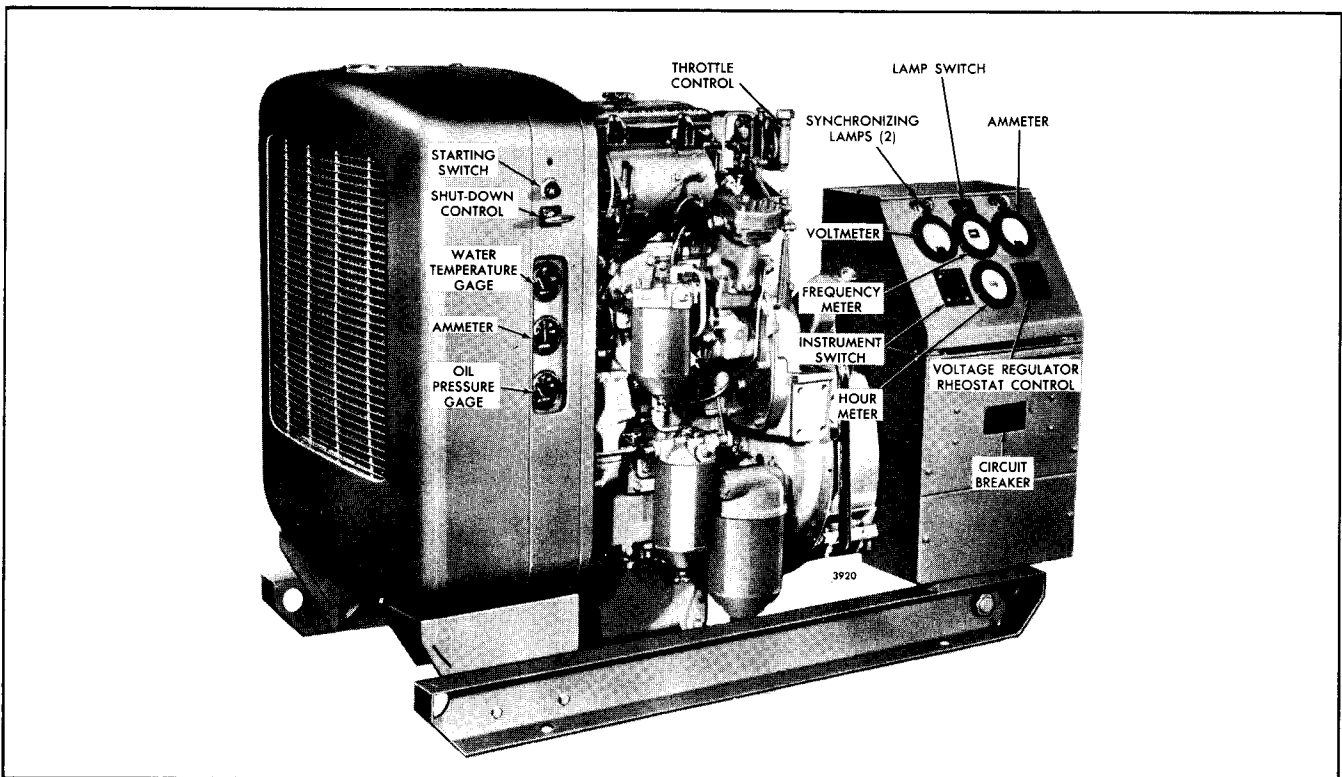

Fig. 1 - Location of Controls on Power Generator Set
These instructions cover the fundamental procedures for operating an alternating current power generator set (Fig. 1). The operator should read these instructions before attempting to operate the generator set.
4. Refer to Fig. 1 and place the circuit breaker in the **off** position.
Press the throttle button and turn the throttle control (Fig. 1) counterclockwise to a position midway between **run** and **stop**. Then press the starting switch firmly.
1. Prepare the generator set to be paralleled as outlined under *Preparation For Starting, Starting Running* and items 1 through 4 under *Preparing Generator for Load*.
2. Check the voltmeter (Fig. 1); the voltage must be the same as the line voltage. Adjust the voltage regulator rheostat control if the voltages are not the same.